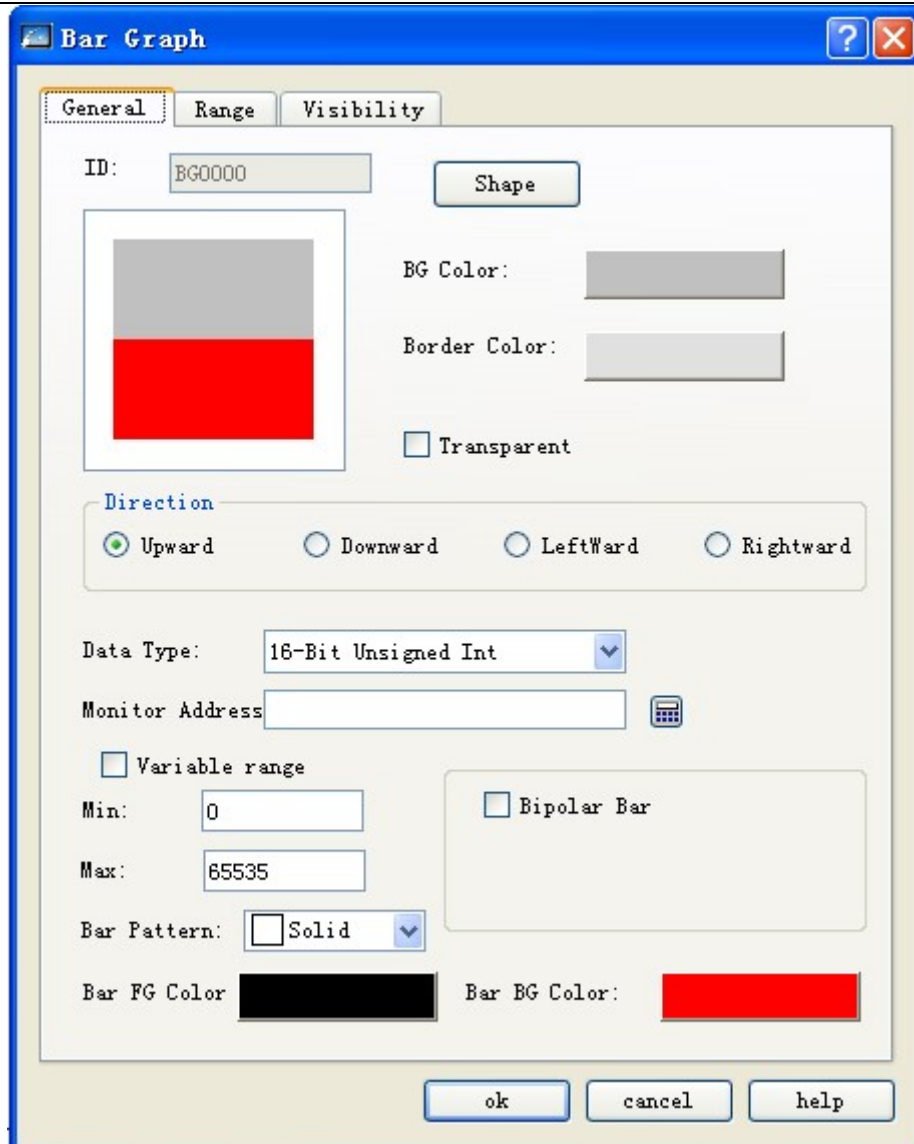

Figure 4-107: Bar graph dialog
1. Click Bar Graph icon  in the tool bar or the Bar Graph command in Tool menu, and then a dialog as shown in Figure 4-107 will appear.
- **Border color:** Border color of the bar graph. Setting of border color in Figure 4-107 is invalid, and you can choose another graph in Shape and then choose the border color to see the change.